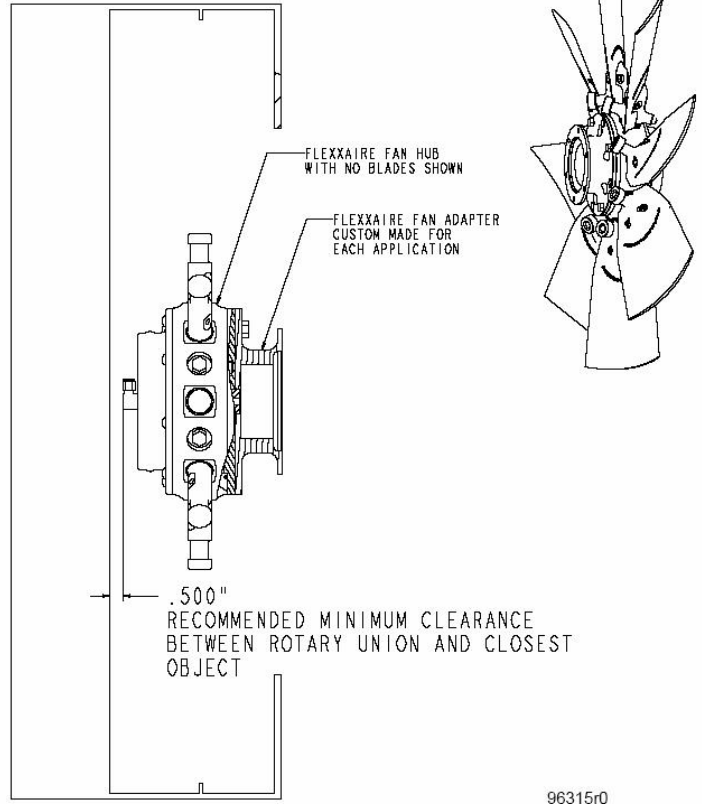

Figure 5
- E. Ensure you have the correct blade clearance. See **Figure 5** on page 5 for a list of recommended minimum clearances based on fan diameter.
WARNING: Ensure that you have the minimum clearance between the rotary union and closest obstruction as per Figure 5 on page 5.
Ensure that the fan fully reverses pitch. Check for leaks in the rotary union. Check that the rotary union bearings rotate smoothly. Verify that you have the correct blade clearance as per **Figure 5** on page 5.